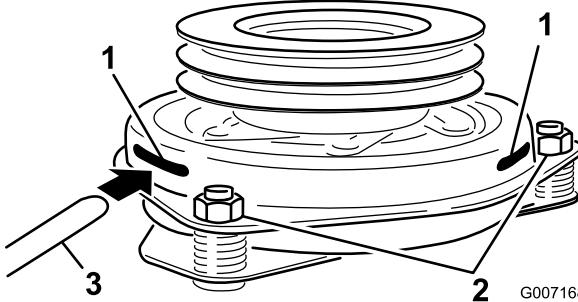

**Figure 55**
- 6. Unplug the electric connection for the clutch (Figure 55).
- 7. Remove the two bolts holding the rubber clutch strap to the mower frame (Figure 55).
- 8. Remove the center bolt holding the clutch to the engine shaft and remove the clutch and key (Figure 55).
- 15. While holding the crank shaft at the back of the machine, install the center bolt and torque it to 50 ft-lbs (68 N·m) (Figure 55).
- 16. Install the rubber clutch strap to the mower frame with the two previously removed bolts and nuts (Figure 55).
- 18. Plug in the electric connection for the clutch (Figure 55).